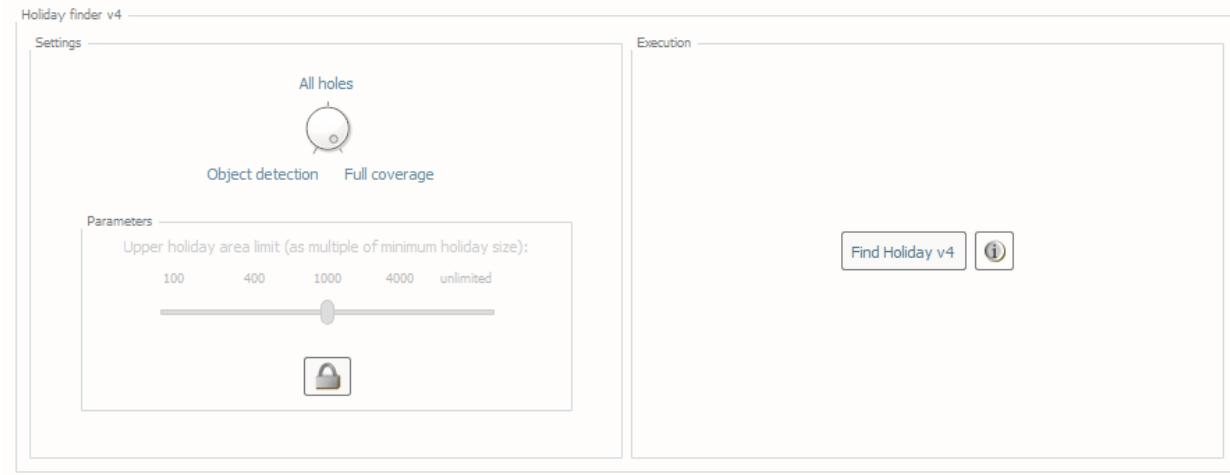

Fig. 2.18: The **Detect holidays** tab.
- Select the **Detect holidays** tab (Fig. 2.18) on the bottom of the QC Tools interface.